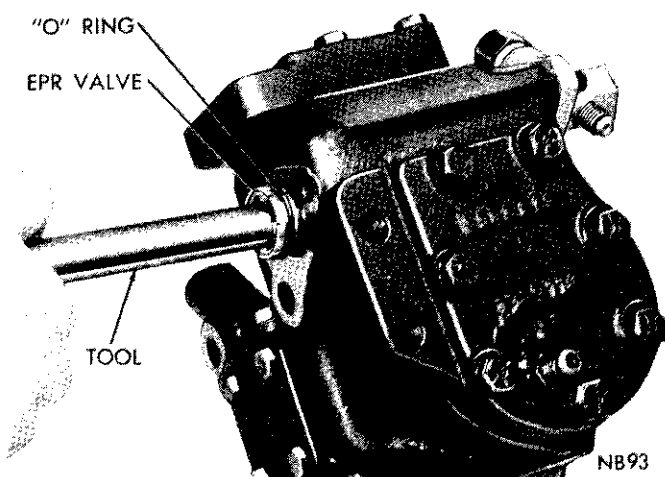

Fig. 6—Removing the EPR Valve
(1) Remove the two "EPR" Valve suction line fitting bolts, the fitting which also contains the compressor suction screen, spring, and the gasket.
(2) Remove the "EPR" Valve and "O" ring from the compressor using Tool C-3822, by rotating the valve counterclockwise slightly (Fig. 6).